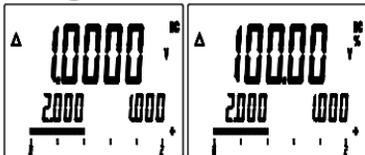

Figure 2-9. Relative Mode
- Press  once to select the Relative Mode. (The meter cannot enter Relative Mode if the present display is OL) the meter enters manual range when Relative Mode is selected. The reference appears in the second auxiliary screen. The new measurement shows the first auxiliary screen. The difference between the reference and a new measurement appears in the main screen (See figure 2-9).